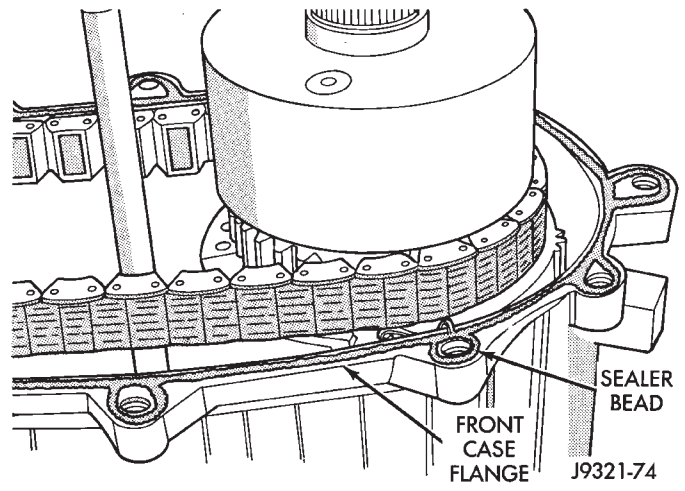

Fig. 85 Applying Sealer To Front Case Flange
(4) Apply 3 mm (1/8 in.) wide bead of Mopar silicone adhesive sealer to mating flange of front case. Work sealer bead around bolt holes as shown (Fig. 85).